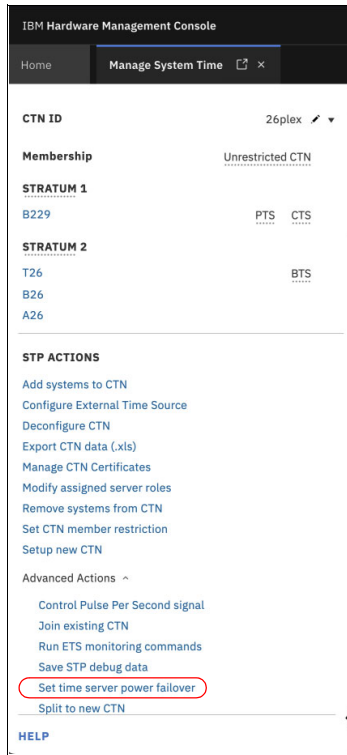

Figure 5-17 Set time server power failover menu
1. Under the Advanced Actions section, select **Set time server power failover**, as shown in Figure 5-17 on page 121.